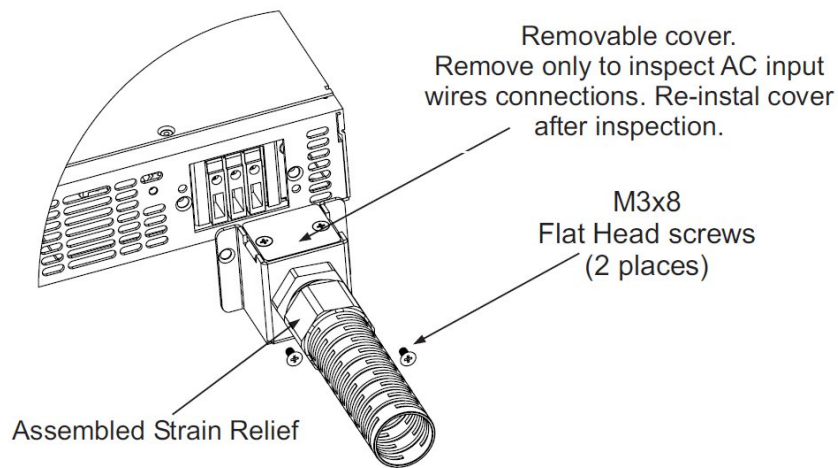

Figure 3-3: AC Input Cover and Strain Relief, 2400W models
5. Route the wires inside the cover to prevent pinching. Fasten the cover to the unit using the M3x8 flat head screws which are provided. Strain relief cover could be opened for inspection. Refer to Figure 3-3 for details.